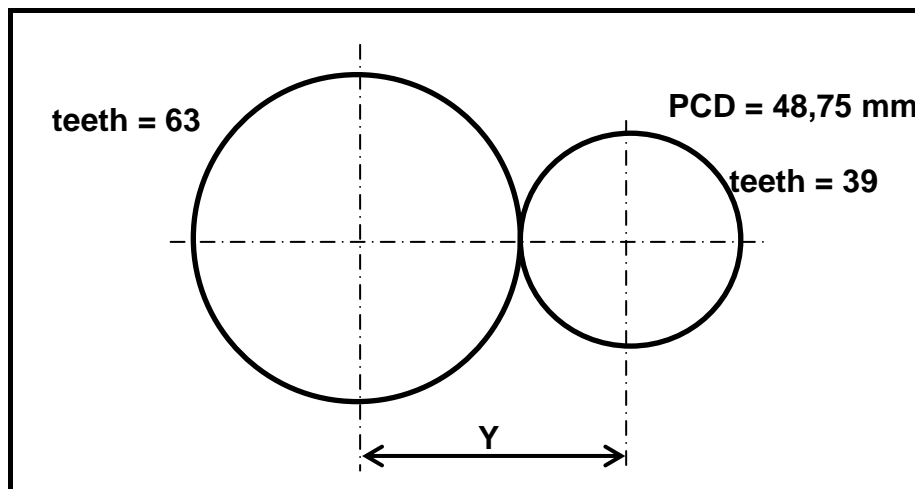

FIGURE 5.1
- 5.6 FIGURE 5.1 below shows two spur gears that mesh with each other. Use the information shown on the sketch and calculate the following: